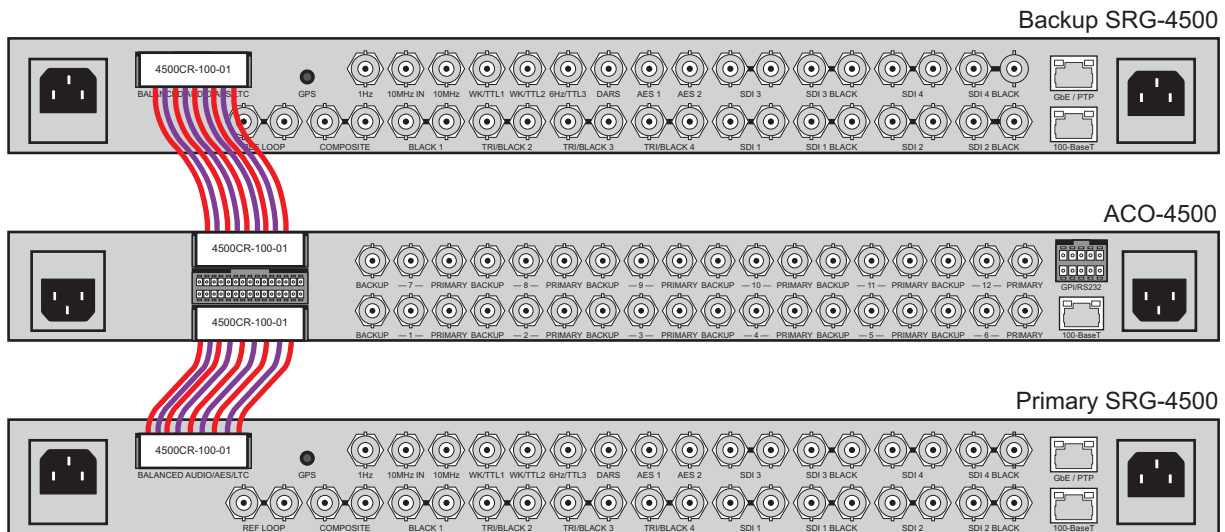

Figure 4.3 Connecting the Backup SRG-4500 to the ACO-4500 Rear Panel
2. Connect the other end of the same Interface Cable to the top 30-pin Connector on the ACO-4500 rear panel. Refer to **Figure 4.3**.